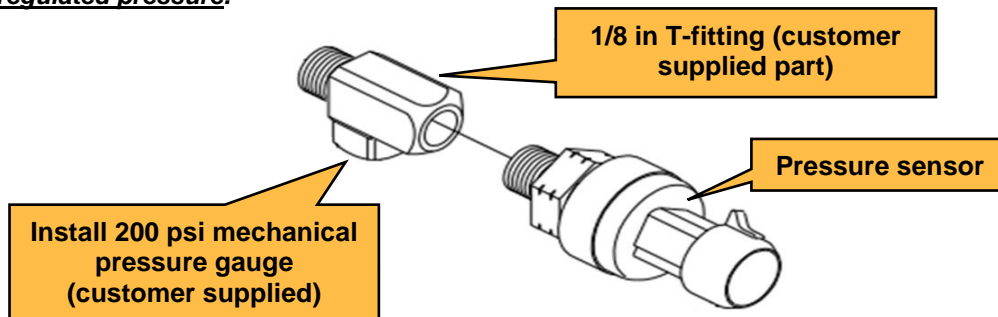

Figure 8
- 2) Install a 200 psi mechanical air pressure gauge, ideally in a T-fitting upstream of the pressure sensor (Figure 8).